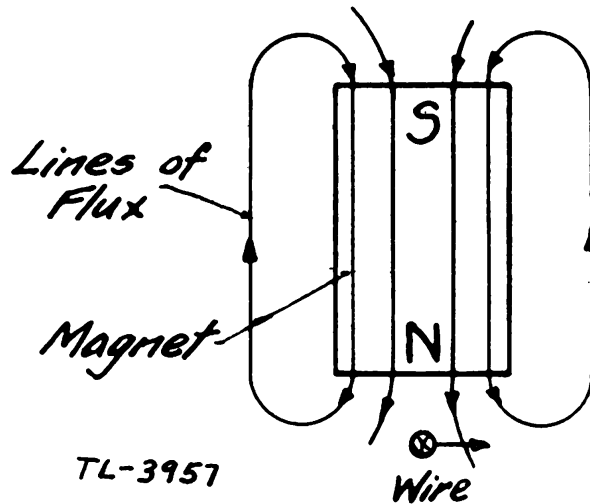

FIGURE 8.—Generator theory, permanent magnet.
**7. Generator theory.**—*a.* Figure 8 shows a permanent bar magnet, with lines of flux leaving the north pole and entering the south
*e.* In an actual generator (fig. 10) the field poles (437) serve as electromagnets. The armature winding (414) acts the same as the wire shown moving by the end of the magnet in figures 8 and 9. This movement is spoken of as "cutting the lines of flux" of the magnet. This motion induces a voltage in the armature winding which is connected to the armature commutator (404). The carbon brushes (402) and (403) mounted in the brush holder assemblies (423 and 424) serve to pick up this voltage from the armature as it rotates; and wires from the brushes (403) make the voltage available at the terminals of the generator.